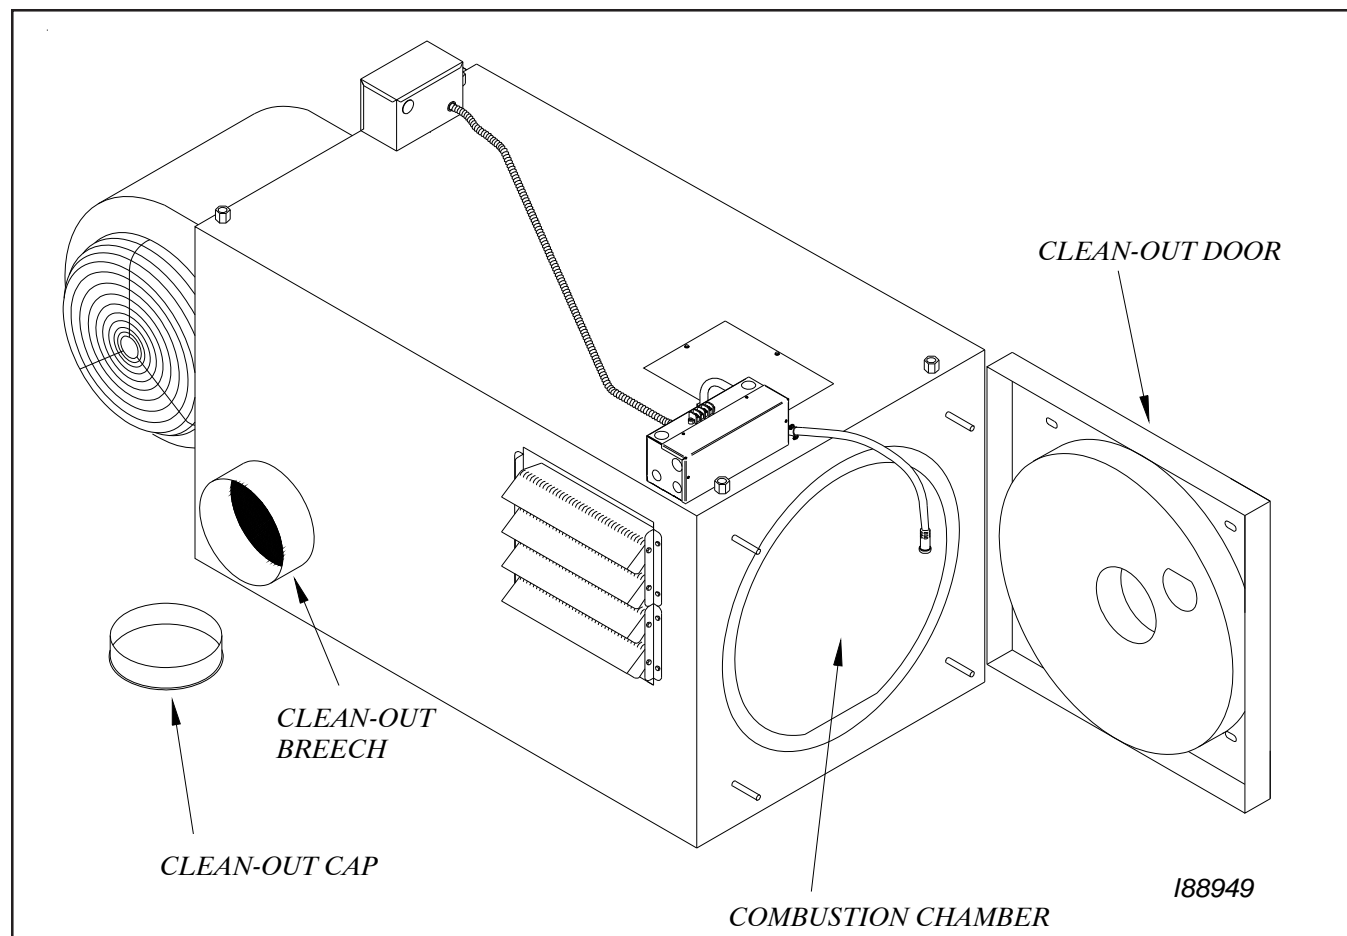

Figure 9D - Accessing the CB-1500 Combustion Chamber for Cleaning (CB-2500 is similar)
3. Clean the ash from the combustion chamber (see Figure 9D):